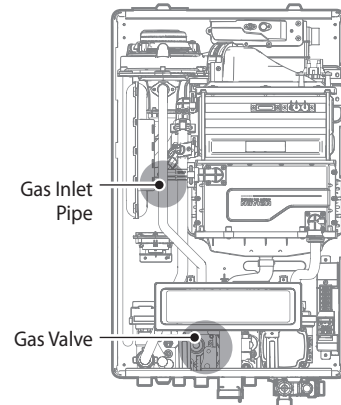
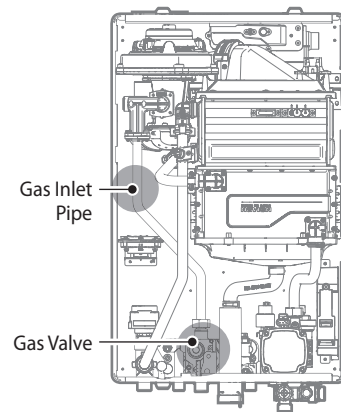

Figure 2-1. NCB-24/28/34LDWE Internal Components
Figure 2-2. NCB-40LDWE Internal Components
8. With the internal components exposed, locate the gas inlet pipe and the gas valve in the middle of the unit, as shown in Figure 2-1 and Figure 2-2.